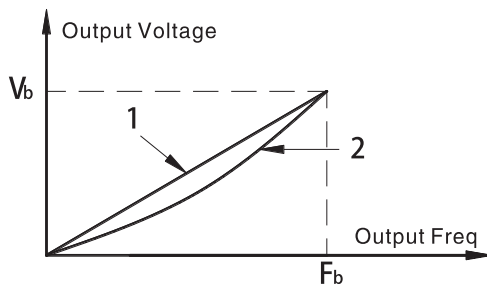

Figure 5-8 V/F curve
**1:Square V/F curve .** It is applicable for variable torque load .such as blower , pump and so on .Please refer to following Figure 5-8 .